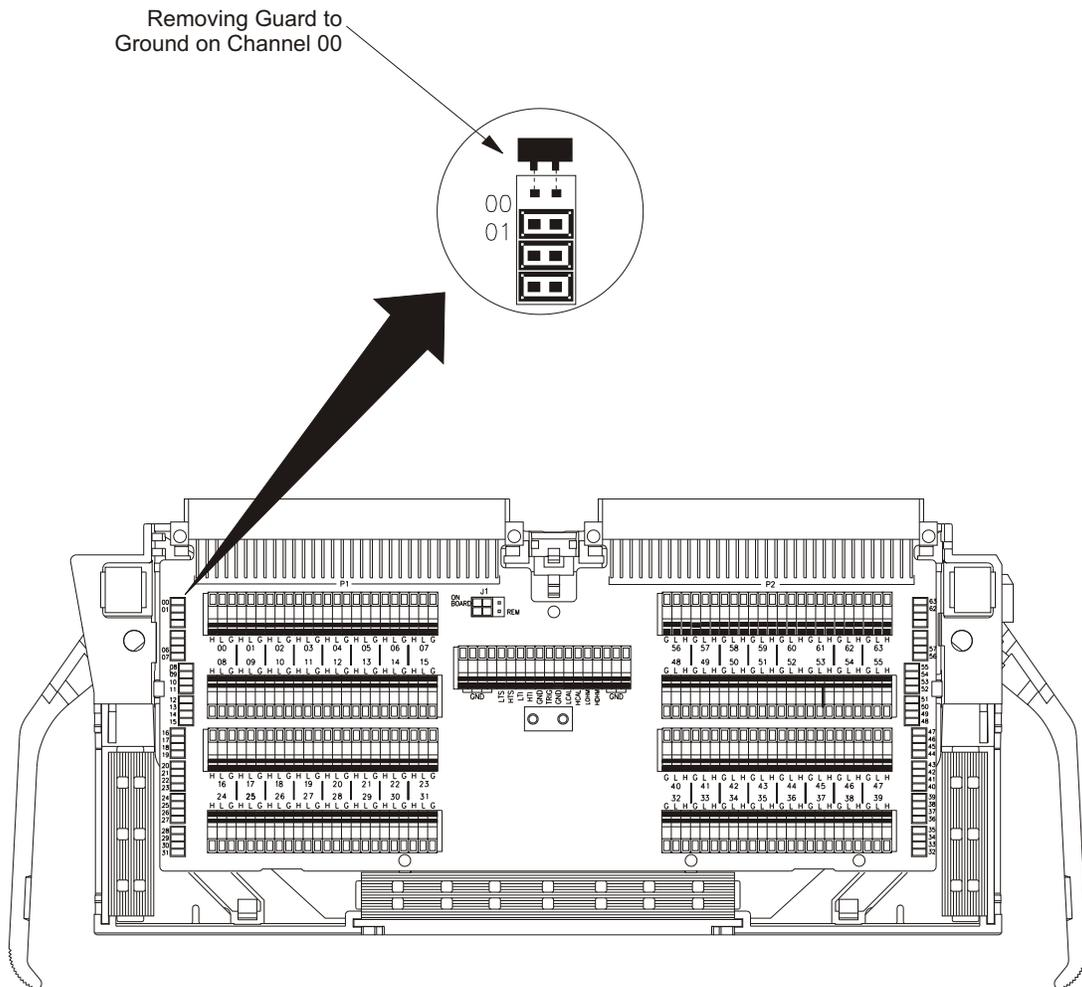

Figure 2-10: Grounding the Guard Terminal
3. The terminal module is shipped with the Ground-to-Guard (GND-GRD) shorting jumper installed for each channel. These may be left installed or removed (see Figure 2-10 to remove the jumper), dependent on the following conditions: